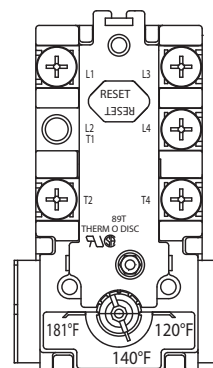

Figure 4. A-8 Thermodisc Thermostat
3. Press the red manual reset button on each Thermostat/ECO combination control. See **Figure 4** (page 16).
A-8 circuit thermodisc thermostats are adjustable from approximately 120°F (49°C) (lowest setting) to 181°F (83°C) (highest setting). See **Figure 4**.